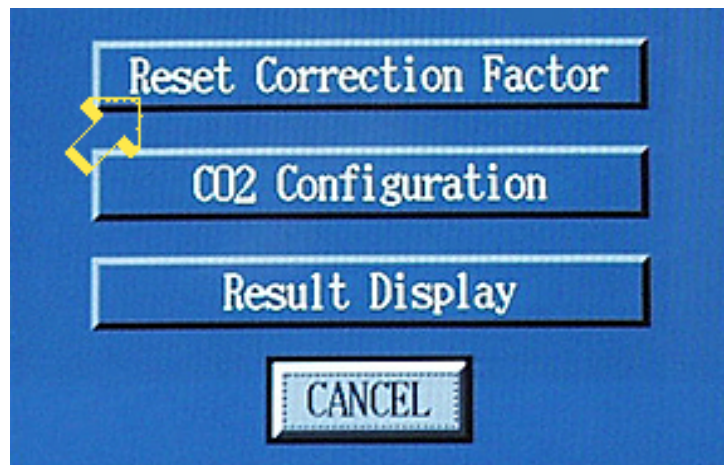

Figure 8
- 110 When "Interference Check" screen appears, click on the "Reset Correction Factor" button. See Figure 8.